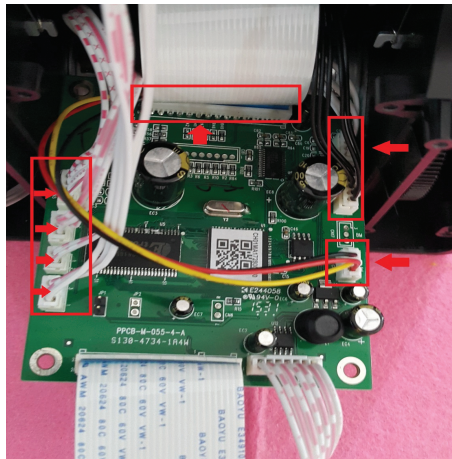

Fig 10
- 2) Unplug all the connection. Ref : Fig 10